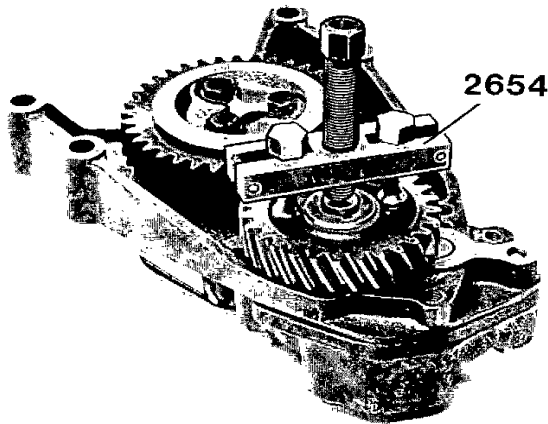

Fig. 101. Removing the drive gear
2. Remove the circlip and pull off the drive gear with puller 2654 (fig. 101). Remove the key and the axial washer from the shaft.